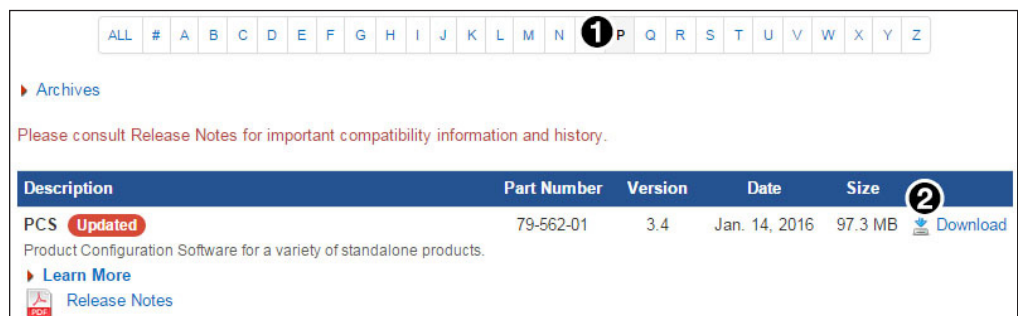

Figure 7. PCS on the Extron Website
3. Navigate to PCS (see figure 7, ①), and click **Download** link on the right (see figure 7, ②).